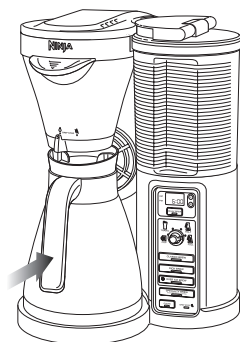

Fig. 12
- Place the vessel that you would like to brew into underneath the brew basket—ensure that the vessel is centered under the brew basket. (Fig. 12)